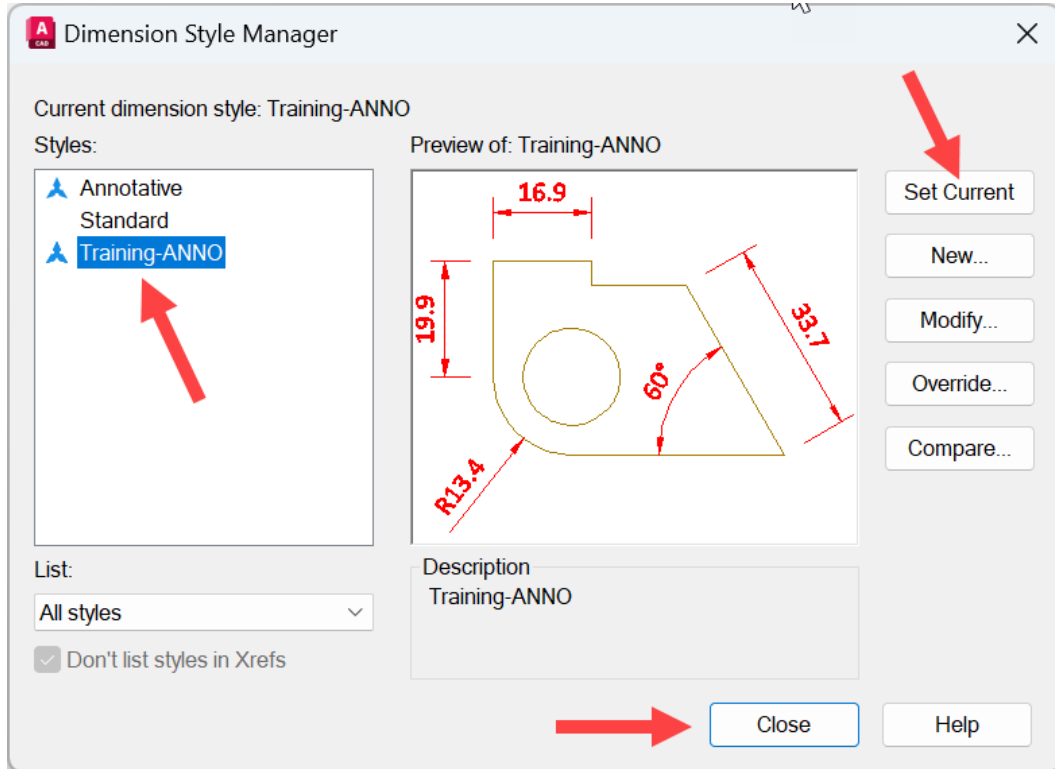

Figure 7.18: Dimension Style Manager with the Training-ANNO dimension style current
21. Click on **OK**. Your dimension style is now set up and displayed in **Dimension Style Manager**, as shown in *Figure 7.18*.
22. Select the new **Training-ANNO** annotative dimension style in the left pane so that it highlights in blue, as shown in *Figure 7.18*.